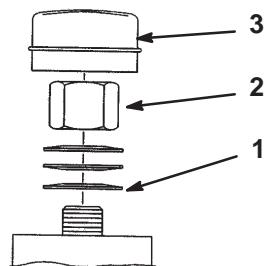

Figure 59
- Remove the dust cap from the caster and tighten the locknut (Fig. 59).
- Tighten until the spring washers are flat and then back off 1/4 turn to properly set the preload on the bearings (Fig. 59).
Important Make sure that the spring washers are installed correctly as shown in Figure 59.